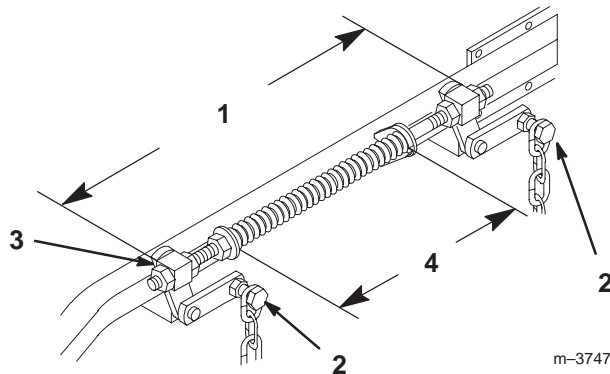

Figure 58
6. Loosen four (4) top chain bolts in slots. Check the length of the rod/swivel assemblies. Distance from outside of rear swivel to outside of front swivel should be 19–17/32 in. (496 mm) (Fig. 58). Make sure that all four swivels move freely in holes.
2. Springs are compressed so the distance between the two large washers should be 10–1/4 in. (260 mm) (Fig. 58).
3. Adjust by turning nut in front of each spring (Fig. 58). Clockwise will shorten spring; counter-clockwise will lengthen spring.